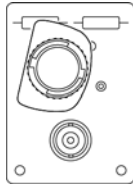

Figure 20 Signal to +Input
- 15 Connect the input of the probe to the test board in the position shown in Figure 20.